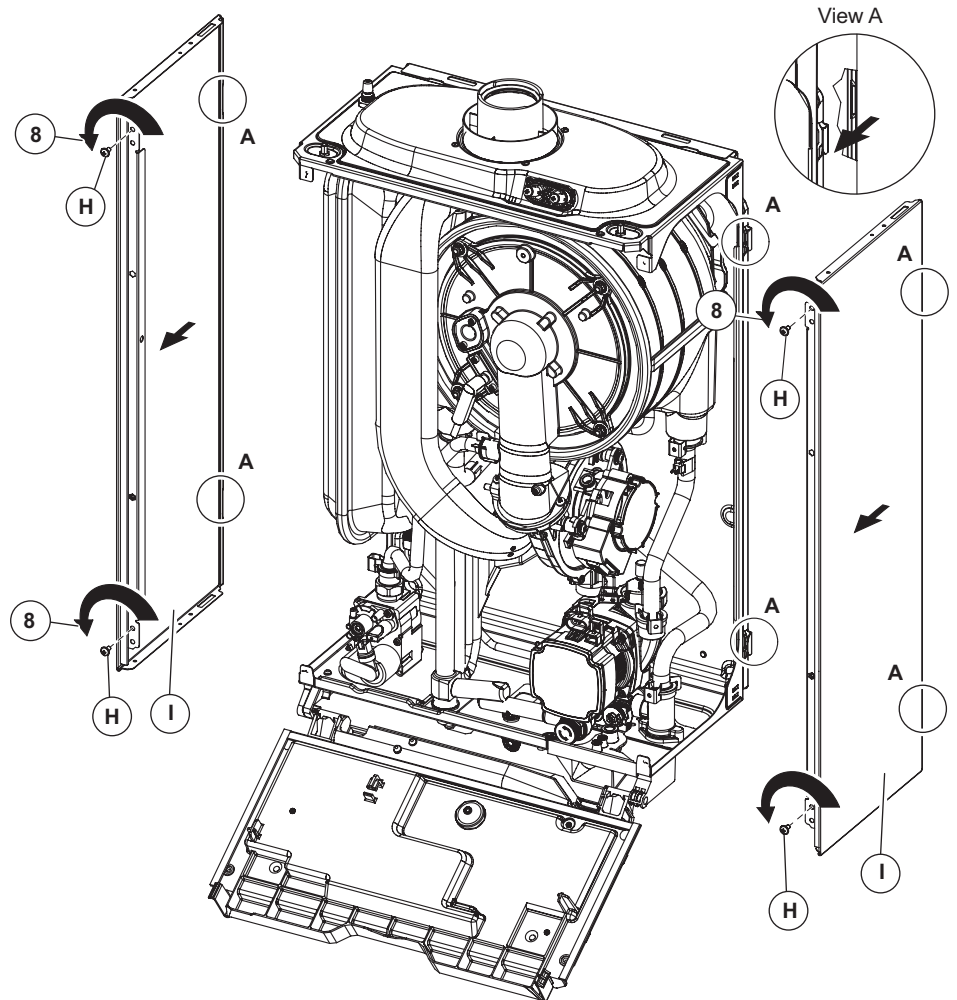

**Fig. 6.3**
**Control panel - Fig. 6.3**
- 6. Press the hooks on the side of the control panel (G).
- 7. Tilt the control panel (G) towards you.